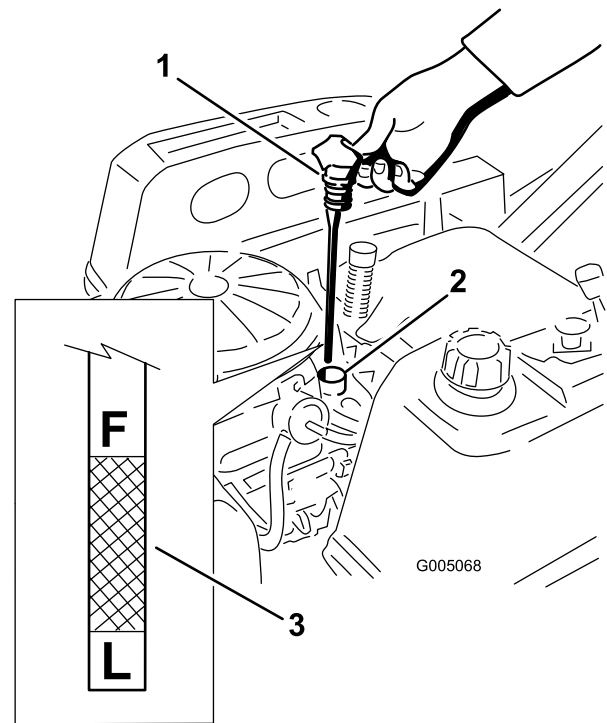
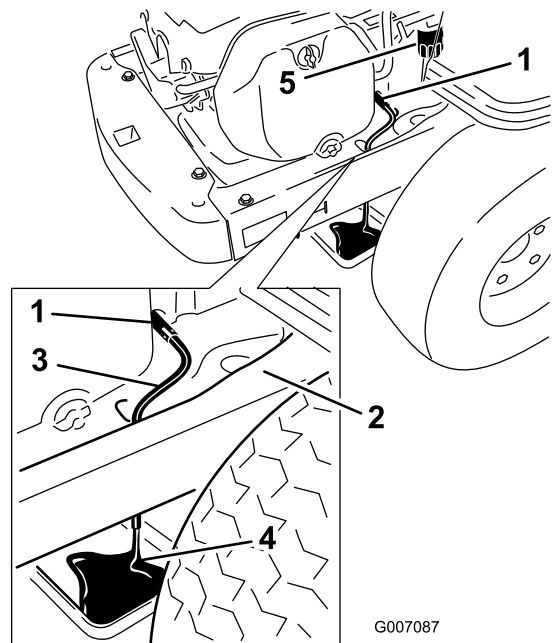

Figure 26
Figure 28
- Pull and remove the oil fill cap/dipstick; wipe oil off. Reinsert the dipstick and push firmly into place (Figure 26).
- Remove the dipstick and check the oil level. (Figure 26).
7. Place a pan underneath machine directly below the drain hole in the frame as shown in Figure 28.
8. Turn the drain valve 1/4 counter clockwise to open and allow the oil to drain (Figure 28). Remove the oil fill cap/dipstick (Figure 26).
10. Remove the old filter and wipe off the mounting pad (Figure 28).
11. When oil has drained completely, close the oil drain valve. Remove the oil drain hose and wipe up any excess oil on the frame (Figure 28).
15. Slowly pour approximately 80% of the specified oil into the filler tube (Figure 26).
16. Install the oil fill cap/dipstick and push firmly into place (Figure 26).
17. Check the oil level (Figure 26); refer to Checking the Oil Level.
19. Install the oil fill cap/dipstick and push firmly into place (Figure 26).